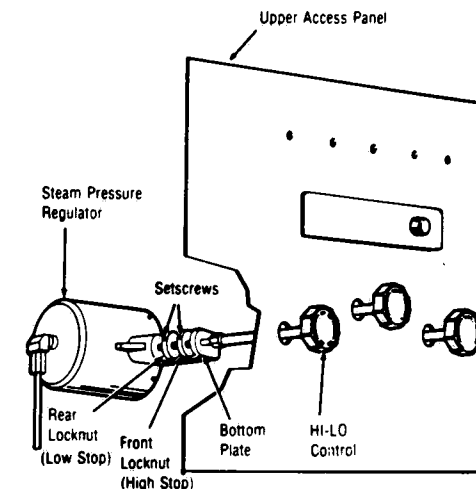

Figure 7-11. ADJUSTING PRESSURE REGULATOR
2. Remove adjusting screw cover (Fig. 7-11).